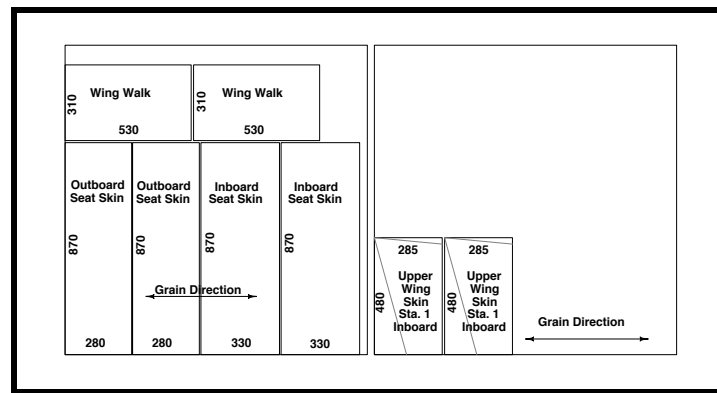

Figure 46
- ❑ Use two 50"x50" sheets of 2.5mm birch plywood and cut in accordance with Figure 46.